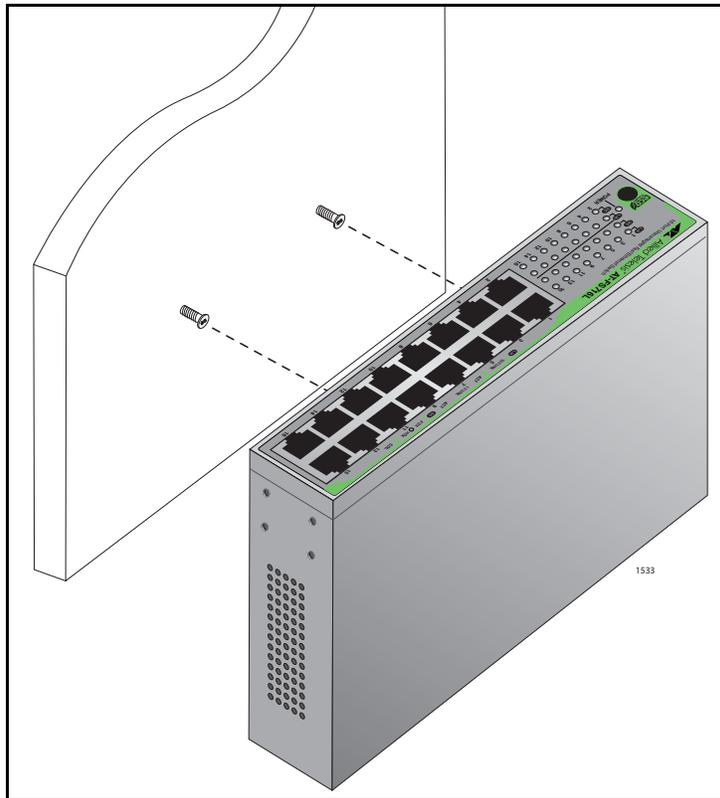

Figure 13. Mounting the Switch on the Wall
5. Mount the chassis on the wall by sliding the chassis over the mounting screws. You may mount the switch as shown in Figure 13 with the ports pointing up or you may elect to mount the switch 180 degrees from what is shown with the switch ports pointing down.